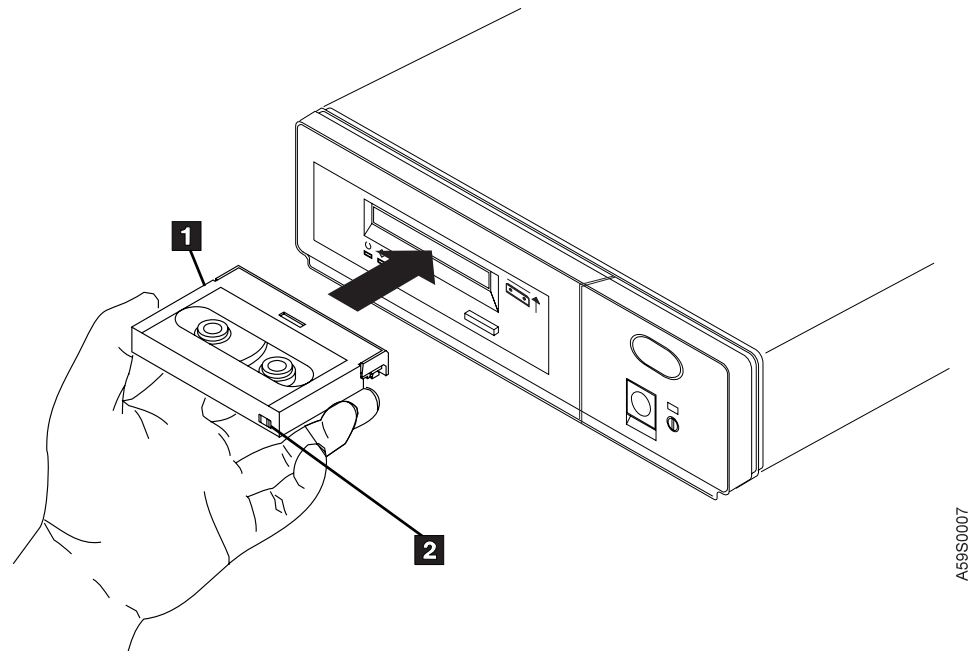

Figure 8. Loading the Cleaning Cartridge
2. Grasp the cleaning cartridge ( **1** in Figure 8) by the outer edges, with the window side up and the write-protect switch **2** facing you.